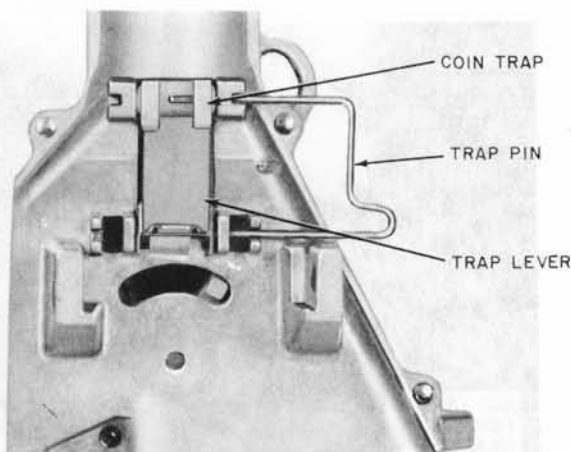

Fig. 62—Placing Coin Trap in Hopper
- (2) Insert the coin trap in the hopper and engage the pin in the trap as shown in Fig. 62.